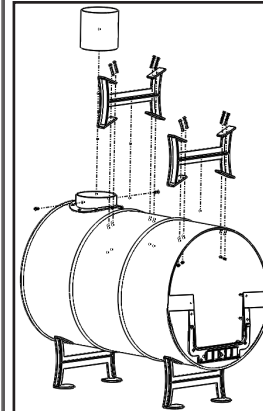

Figure 5
11. Position the connecting legs on top of the barrel, near the front and rear of the barrel and balanced around the center of the barrel so that the second barrel may be supported securely. When positioning the back legs be sure to not obstruct the flue collar. With the door frame attached, access the inside of the barrel to secure the legs. (Figure 5)